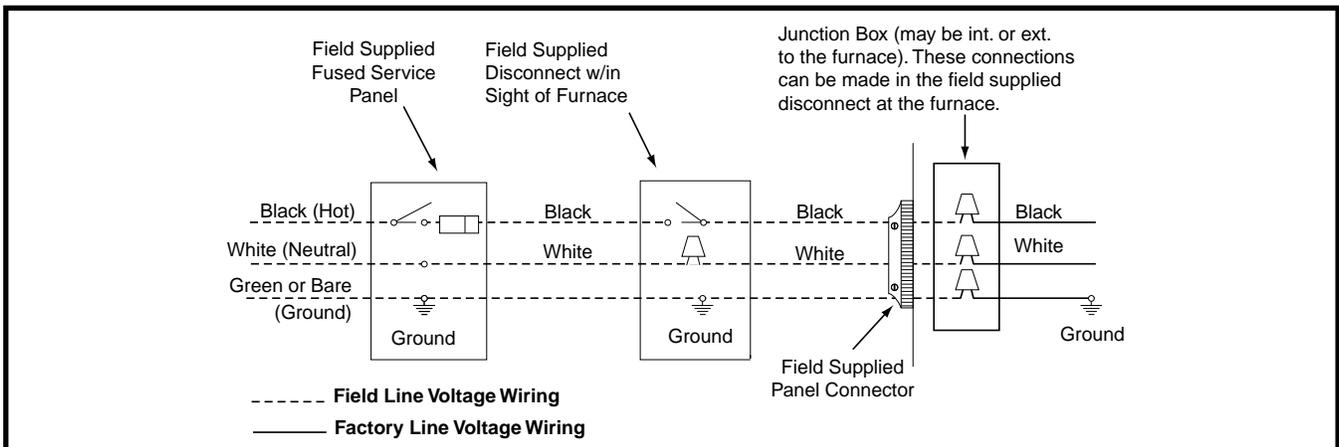

Figure 14. Line Voltage Field Wiring
- An electrical disconnect must be installed readily accessible from and located within sight of the furnace. See Figure 14 or the wiring diagram label inside of the control door. Any other wiring methods must be acceptable to authority having jurisdiction.
- Proper line voltage polarity must be maintained in order for the control system to operate correctly. Verify the incoming neutral line is connected to the white wire and the incoming “hot” line is connected to the black wire. The furnace will not operate unless the polarity and ground are properly connected as shown in Figure 14